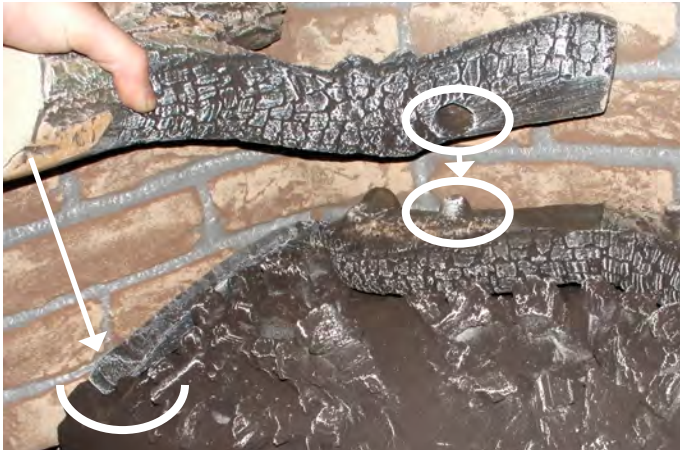

Figure 21 Sec.9 Log 2 installation
4). Place the second log on top of the first log ceramic pin and fit the front end of the log into the cradle of the ceramic burner, see **Figure 21**.